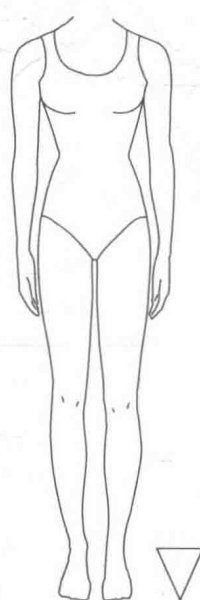

FIGURE 4.33
- The inverted triangular figure is not balanced. There is more body weight in the upper torso and arms. This figure is often said to be top-heavy (see Figure 4.33).